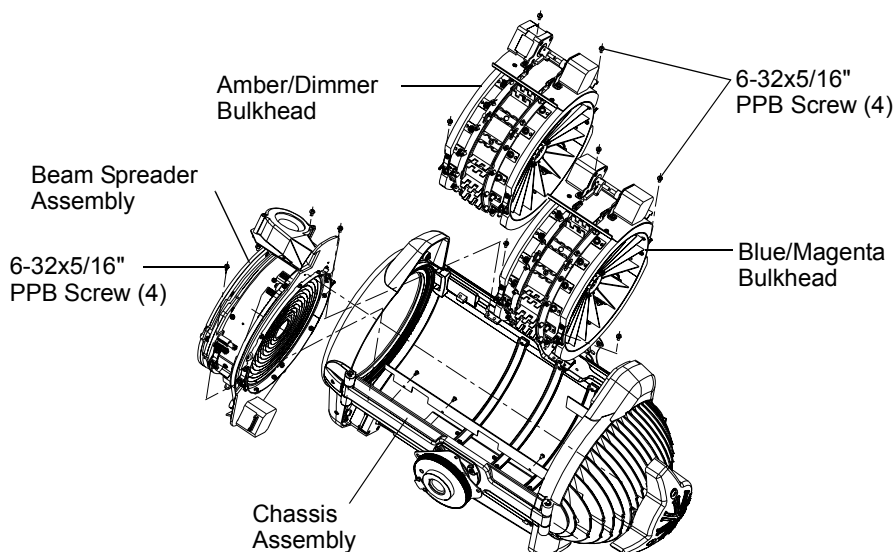

Figure 2-9: Beam Spreader / Bulkheads Replacement
- Step 5. Remove four 6-32x5/16" PPB screws and remove beam spreader assembly from head assembly. **Figure 2-9.**
- Step 5. Remove four 6-32×5/16" PPB screws and remove blue/magenta bulkhead from head assembly. **Figure 2-9.**
- Step 5. Remove four 6-32×5/16" PPB screws and remove amber/dimmer bulkhead from head assembly. **Figure 2-9.**